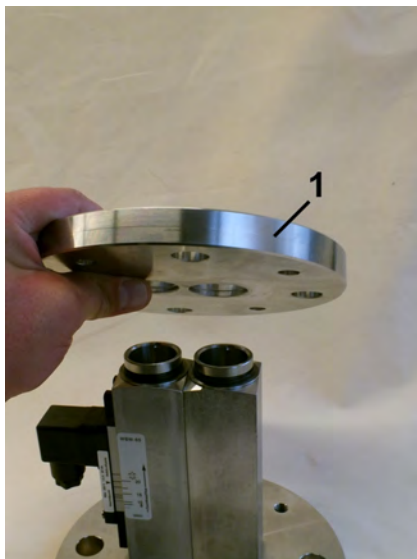

Fig. 37: Remove flange (outlet)
3.  Carefully remove the flange (outlet) (Fig. 37/1) from the 2 device bodies, taking care not to cant the connecting flange.